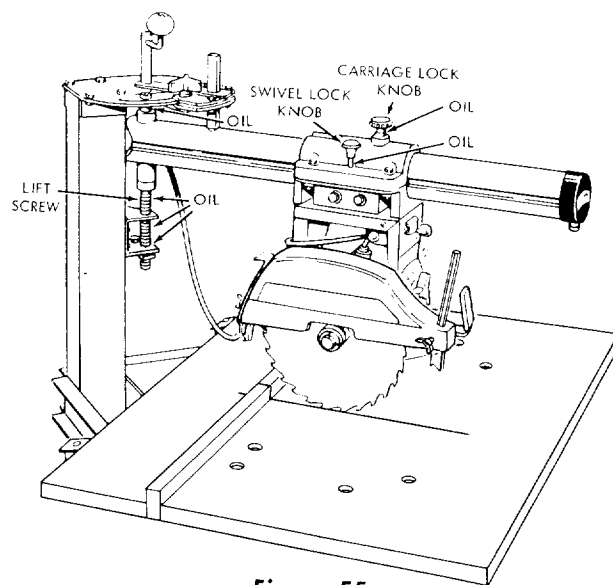

Figure 55
- Periodically lubricate with SAE No. 10W-30 automotive engine oil at locations shown in figure 55.